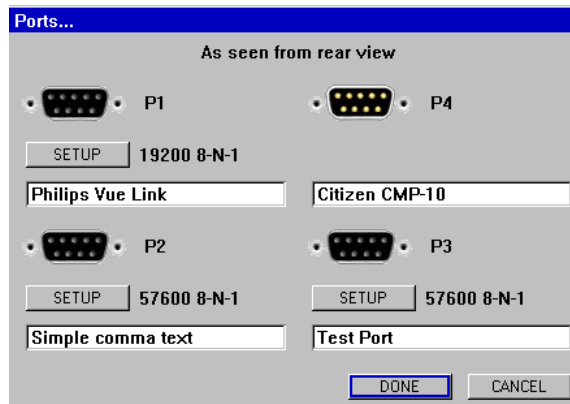

Figure 6: Ports
- 4) Press the rotary control knob a second time to open the Ports Dialog. Refer to Figure 6: Ports.